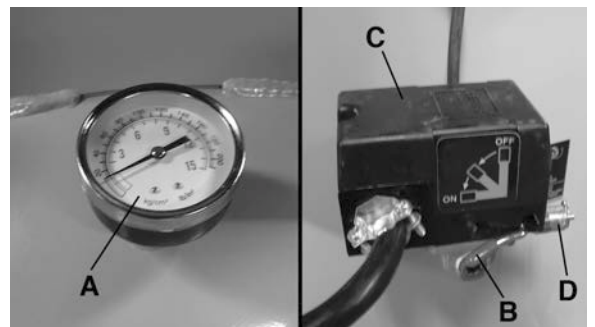

FIGURE 9
TANK PRESSURE GAUGE (A) FIG.9. The tank pressure gauge indicates the reserve air pressure in the tank.
ON/AUTO-OFF SWITCH (B) FIG.9. Turn this switch ON to provide power to the automatic pressure switch and OFF to remove power at the end of each use.
PRESSURE SWITCH (C) FIG.9. The pressure switch automatically starts the motor when the tank pressure drops below the factory set "Cut-In" pressure. It also stops the motor when the air tank pressure reaches the factory set "Cut-Out" pressure.
ASME SAFETY VALVE (D) FIG.9. If the pressure switch does not shut off the air compressor at its cutout pressure setting, the safety valve will protect against high pressure by "popping out" at its factory set pressure (slightly higher than the pressure switch cut-out setting).
- 2) Pull ring on safety valve (D) Fig.9, allowing air to bleed from the tank until tank pressure is approximately 20 PSI. Release safety valve ring.
NOTE: If drain valve is plugged, pull ring on safety valve (D) Fig.9, and hold until all air pressure has been released. The valve can then be removed, cleaned, and reinstalled.